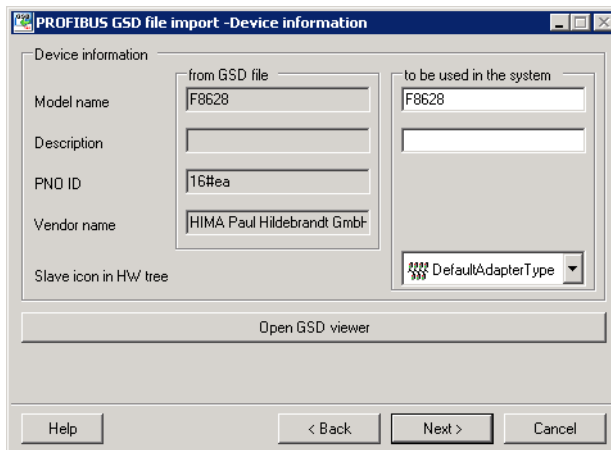

Figure 99. Device Information
2. Check the Device Information and click **Next**, refer to Figure 99.